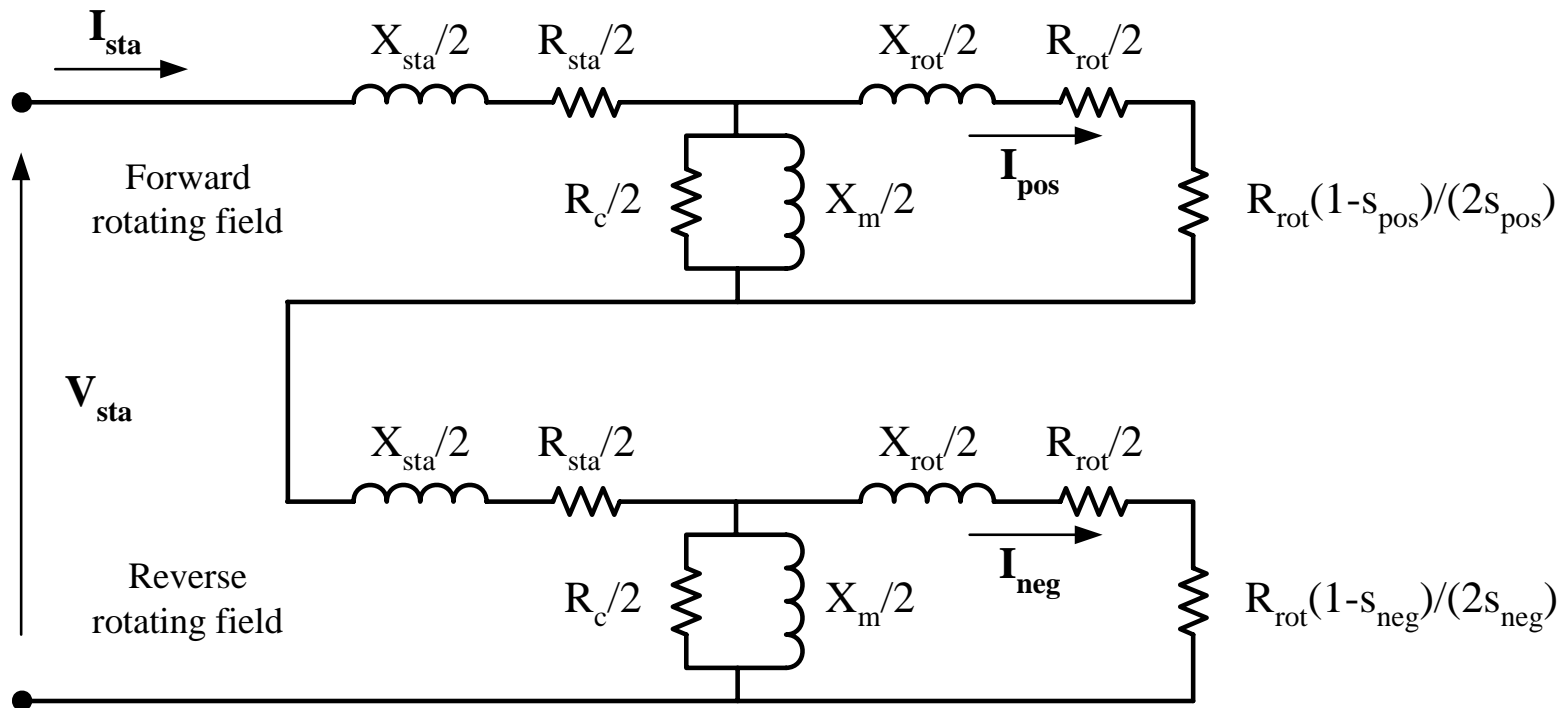

Figure 44 Equivalent circuit of a single-phase motor in running condition.
- **Figure 44 shows the equivalent circuit of a single-phase motor in running condition.**